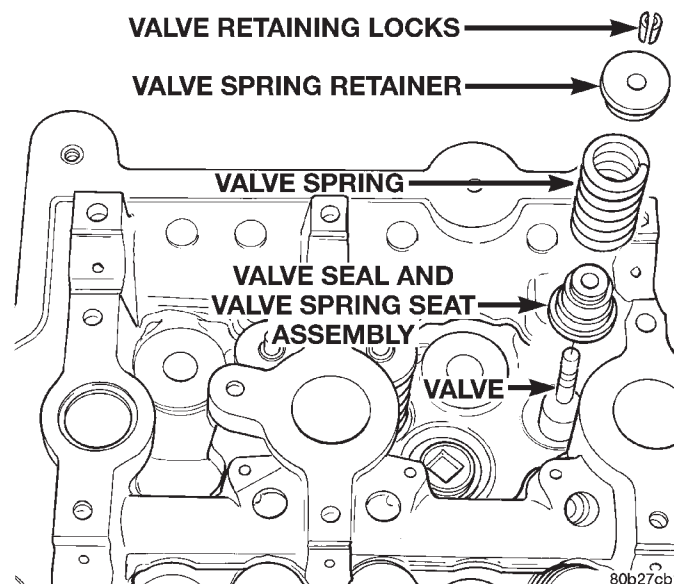

Fig. 50 Valve, Spring, and Valve Stem Seal
(3) Install valve seal/spring seat assembly over valve guides on all valve stems (Fig. 50). Ensure that the garter spring is intact around the top of the rubber seal. Install valve springs, valve retainers.